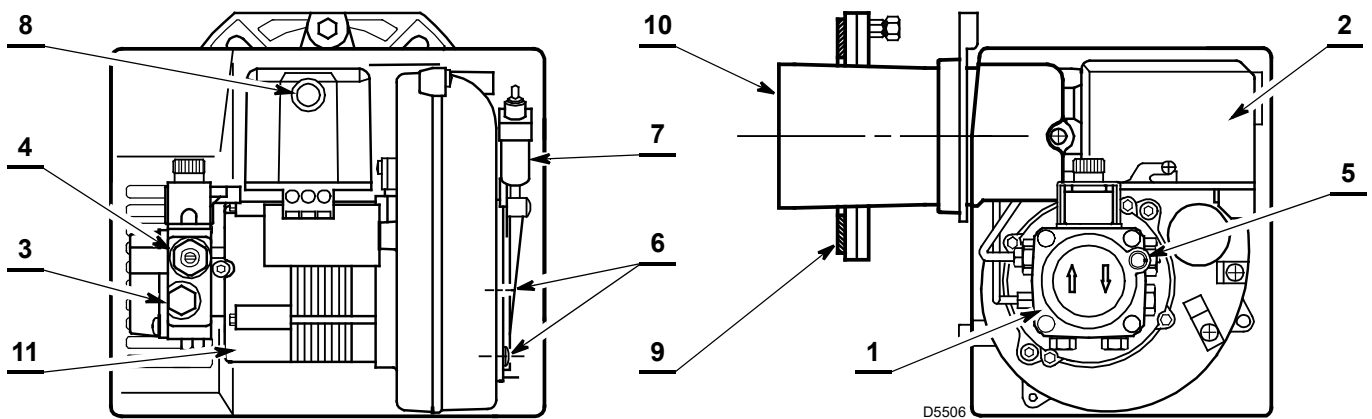
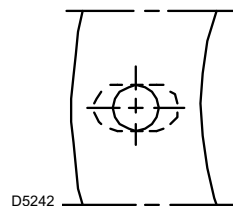

Fig. 1
Fig. 6
- It is necessary that the insulating gasket 9)(Fig. 1 at page 8) is placed between the boiler door and the burner flange. The insulating gasket has six holes, which, if necessary, can be modified as shown in Fig. 6.